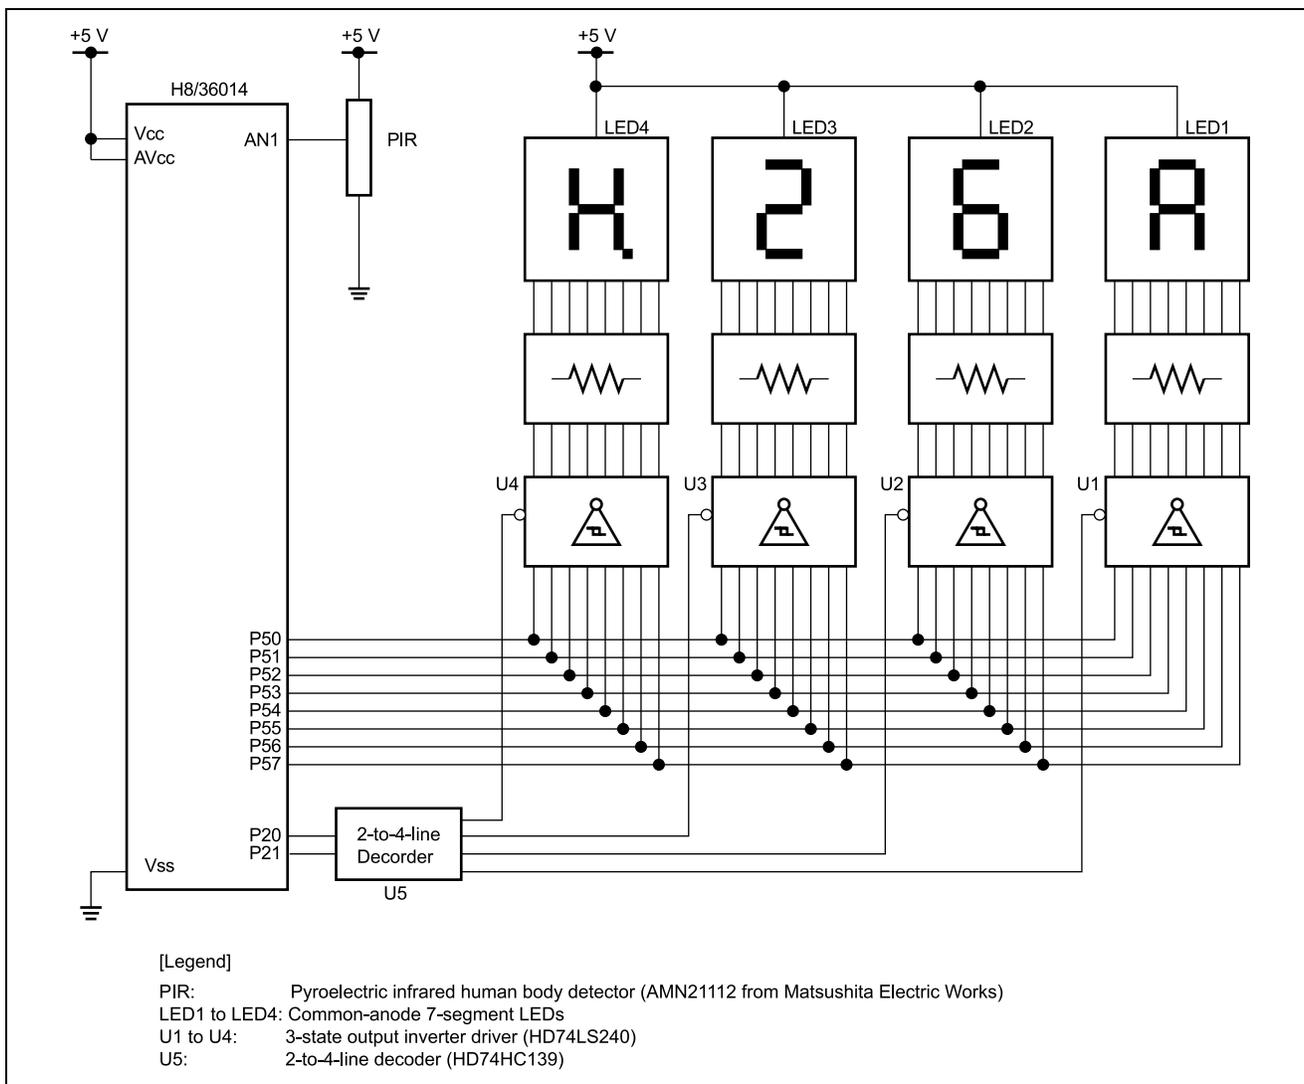

Figure 1.1 Hardware Configuration
1. Figure 1.1 shows the hardware configuration for an example of connecting a pyroelectric infrared sensor for human body detection. As is shown in the figure, the sensor is connected to the analog input pin 1 (pin AN1).